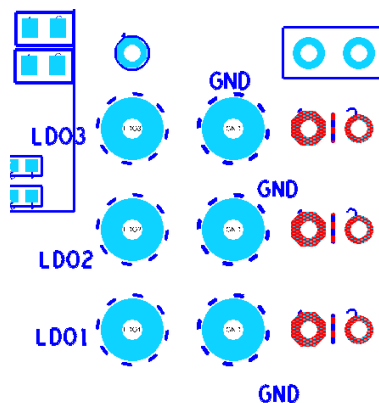

Figure 11. Locations for Measurement of LDO Regulator Output Voltages
5. Figure 11 shows locations on the PCB where the LDO regulator output voltages can be measured accurately. For each LDO regulator, there is a pair of pads with holes to which wires, pins, or connectors can be soldered, or an oscilloscope probe can be connected. The larger of each pair of pads is the positive; the smaller pad is ground.